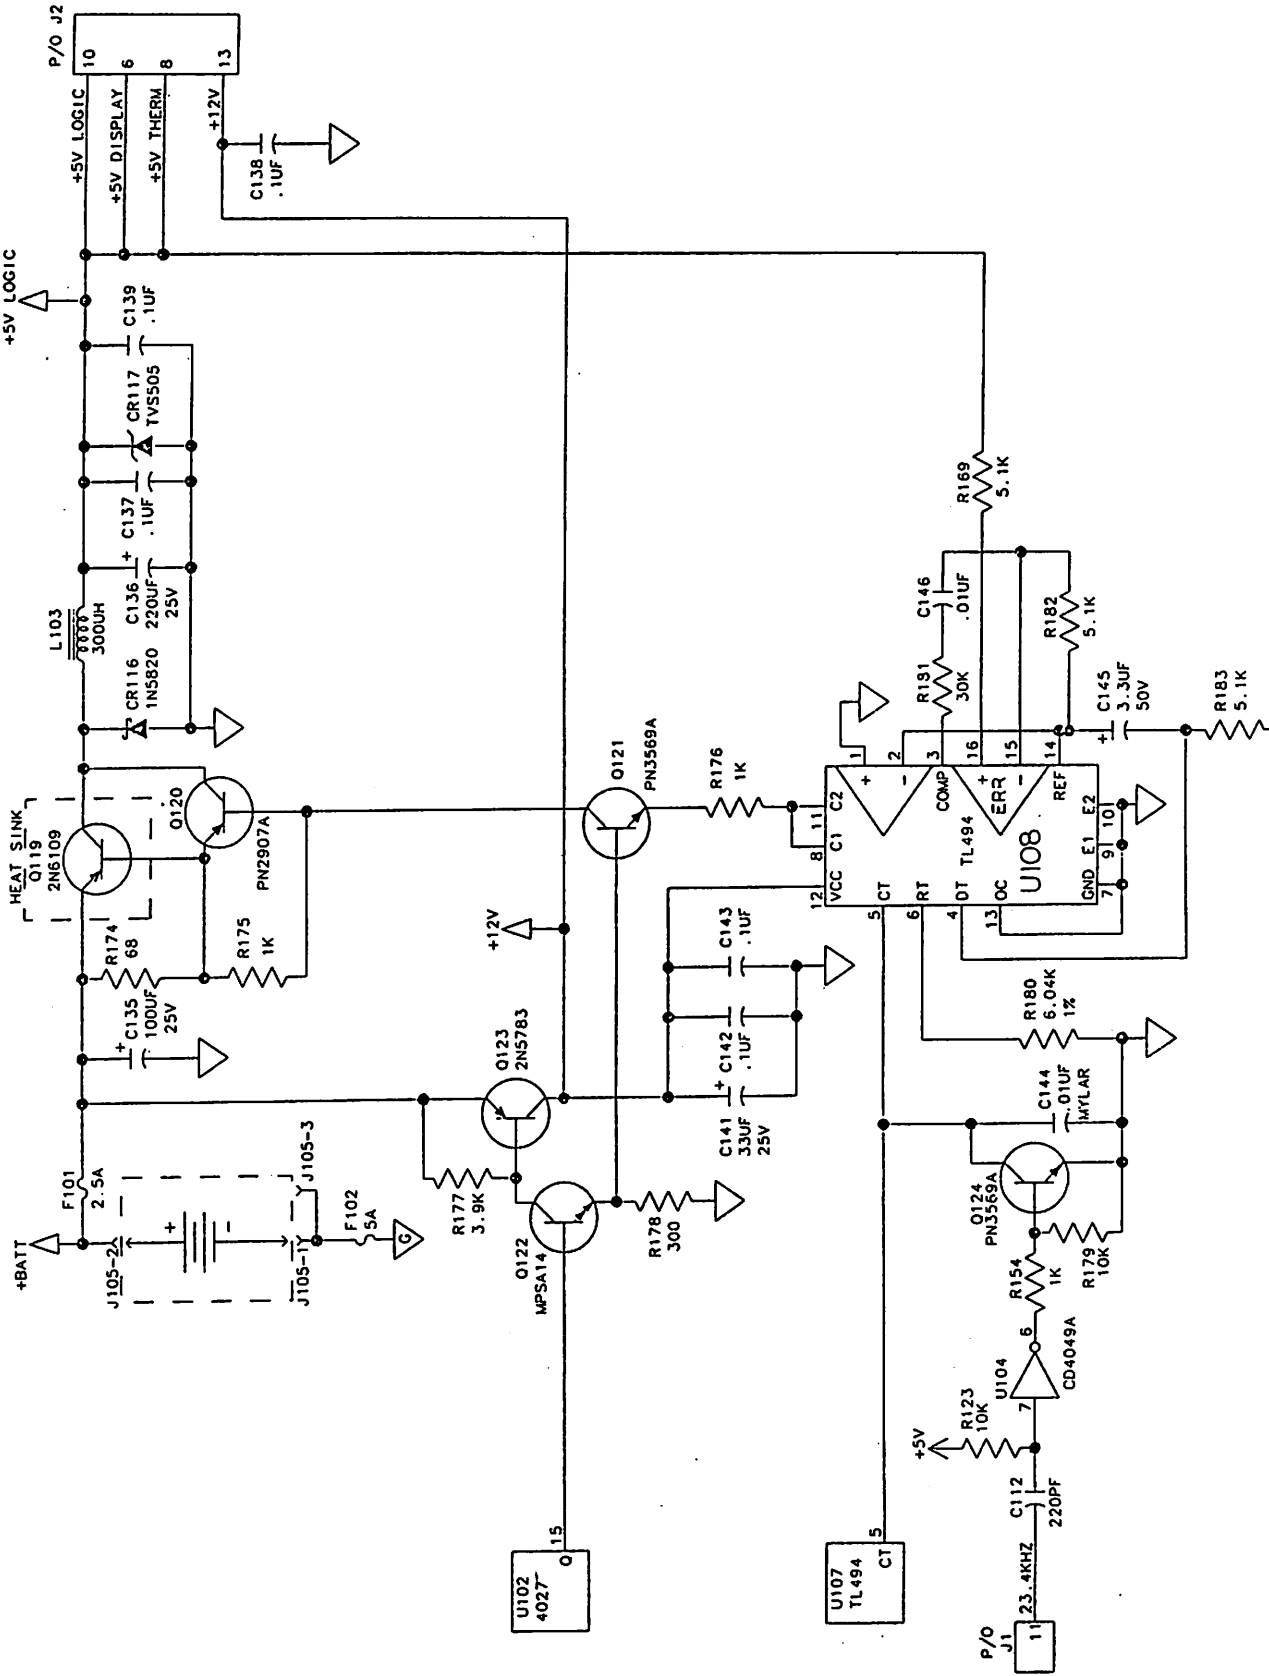

Figure 3-29. +12 and +5V Power Supplies
3.9.7 +12 Volt Supply (figure 3-29)
3.9.8 +5V Logic Supply (figure 3-29)